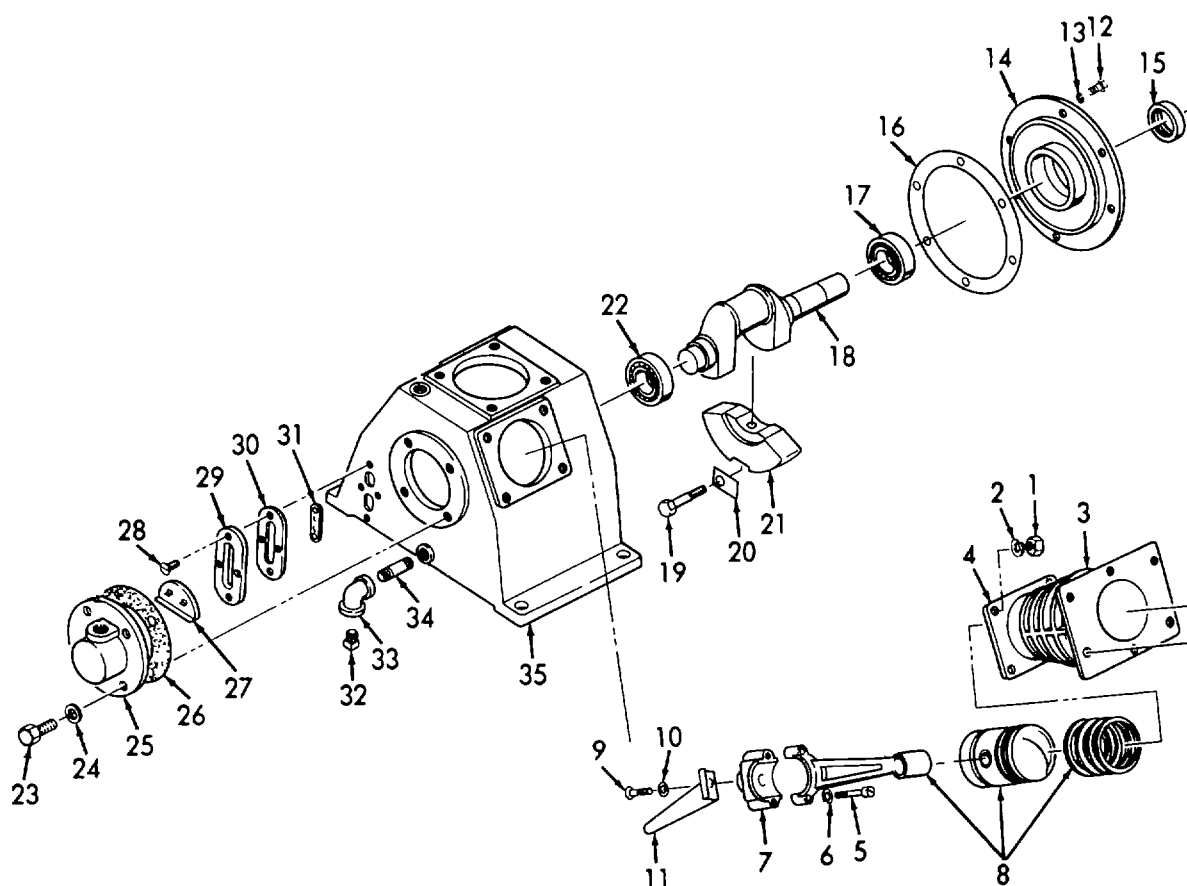

Figure 4-1. Air Compressor, Disassembly.
a. *Disassembly.* (Refer to Figure 4-1).
- (1) Remove four nuts (1), four lockwashers (2), cylinder (3), and gasket (4). Discard gasket. Repeat for other two cylinders.
- (2) Remove two bolts (5), two lockwashers (6), connecting rod cap (7), and rod and piston assembly (8).
- (3) Remove bolt (9), washer (10), and slinger (11). Repeat for other two pistons.
- (4) Remove six bolts (12), six copper washers (13), insert two bolts in jack screw holes in cover (14), tighten bolts and remove cover (14). Remove seal (15). Discard seal (15).
- (5) Remove gasket (16) and discard gasket (16).